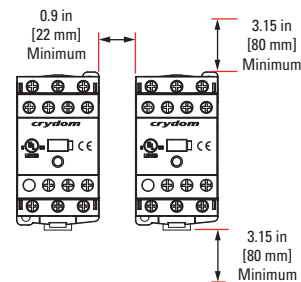

fig. 3 Multiple units mounting for maximum ratings
To achieve maximum ratings, there must be a minimum spacing of 0.8 in (22 mm) between the devices in free air and a minimum free spacing of 3.15 in (80 mm) at the top and at the bottom. (See **fig. 3**)
- (A) See compatible accessories in corresponding datasheet.
- (B) For optimal thermal performance, contactor vents should be aligned vertically to maximize natural convection airflow.
- (C) To achieve maximum ratings, there must be a minimum spacing of 0.8 in (22 mm) between the devices in free air and a minimum free spacing of 3.15 in (80 mm) at the top and at the bottom. (see **fig. 3**)
- (D) Normally Open (13 - 14) for DRC3xxx411 models and DRC3xxx420 models.
- (E) Normally Open (23-24) for DRC3xxx420 models, Normally Closed (21-22) for DRC3xxx411 models.
- (F) Not available for DRC3xxx400 models.